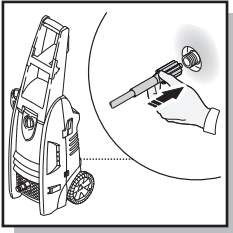

Fig.10
- Screw the high pressure hose (clockwise) on the back of the unit at the bottom Fig 10. The end of the hose must be inserted into the water outlet far enough so the collar can thread onto the outlet threads until hand tight. Do not use pliers or vice grips to tighten. If it takes fewer than six or so turns you have not properly tightened the high pressure hose fitting. It is easier to position the pressure washer in front of you so to ensure that the threads are started correctly. Failure to properly tighten the high pressure hose will result in the hose slipping or popping off immediately upon turning the unit. Do not worry about damage if this occurs - just reinstall and take extra care at screwing on the high pressure hose fitting.